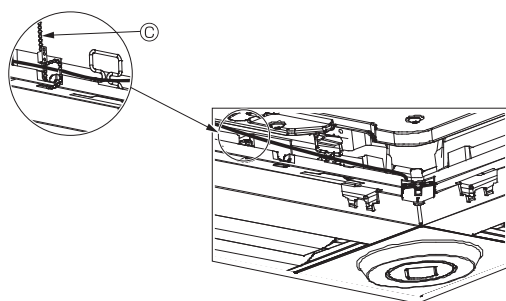

Fig. 10-12
- Secure the i-See sensor and signal receiver wires to the panel with the fastener as shown in the diagram so that there is no slack in the wires, and then cut off the excess end of the fastener. (Fig. 10-12)
- If the position of the i-See sensor was changed from the "○" position (E) to the "□" position (F), change the function settings. (Refer to page 14.)